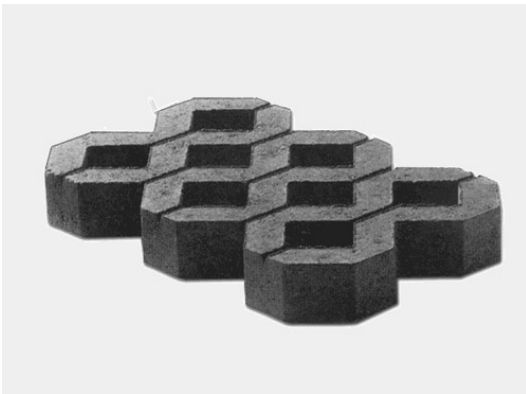

Figure 6: Turf Block Pavers
3.4 Armored Tread/Turf Block Pavers (figure 6)